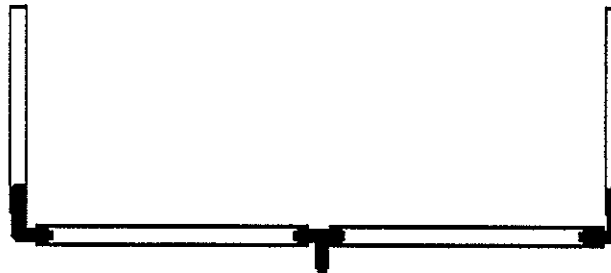

Figure 2
6. Assemble the drain hose as shown in Figure 2. Attach the drain hose to the drain ports located at the rear of unit. Route hose out of vehicle cab. (Note: Hose from evaporator unit to outside of vehicle not included in kit.)